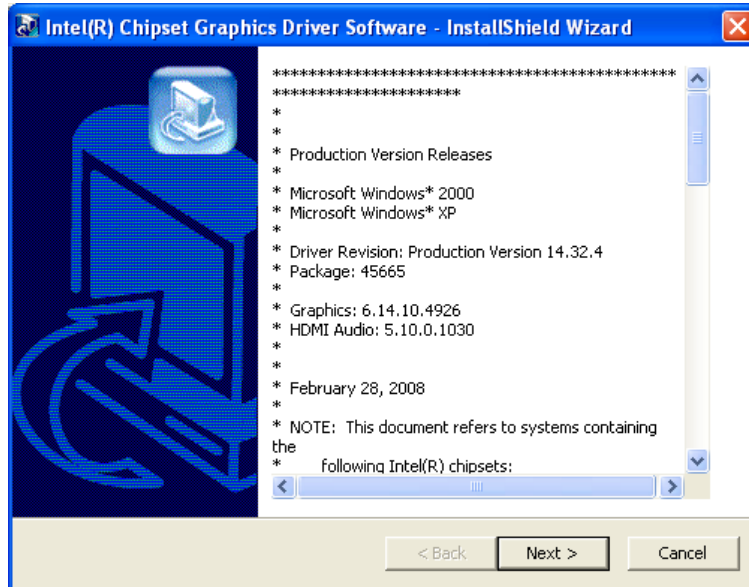

Figure 7-10: VGA Driver Read Me File
- Step 3:** The VGA Read Me file in Figure 7-10 appears.